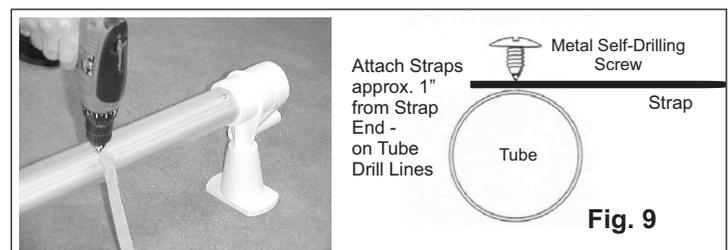

Fig. 9
- Mark each End Tube 6" (15 cm) in from the inside edge of pool top rail. Attach one Strap at each mark on a Drill Line (see Fig. 9). The remainder of the Straps will be spaced evenly - on Drill Lines - between the outside 2 Straps. Mark all strap locations before installing. Use all Straps provided. Note: Maximum distance between straps is 30"
- Attach Straps to Tubes at the marks with a Metal Screw directly through the strap material and approximately 1" back from the end of the strap (see Fig. 9). **DO NOT pre-drill holes** (a tiny "pilot hole" is acceptable) or **over-tighten screw**.